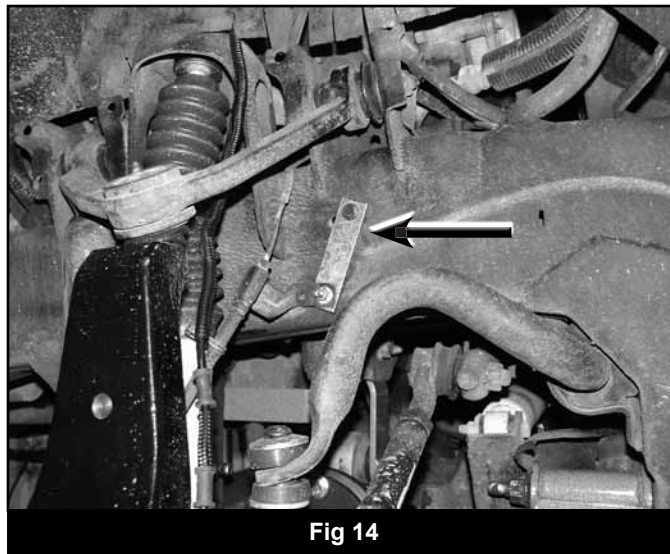

Fig 14
48. Attach the provided brake line relocation bracket to the original mounting hole on the frame with the OE bolt (Fig 14). Leave bolt loose.